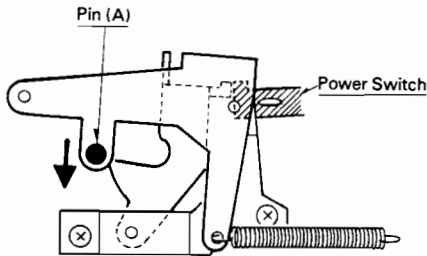

Fig. 2
2. When the cassette is pushed in all the way, the pin (A), supported by arm (A), will come loose. The Power Switch will come on at the same time (Fig. 2).